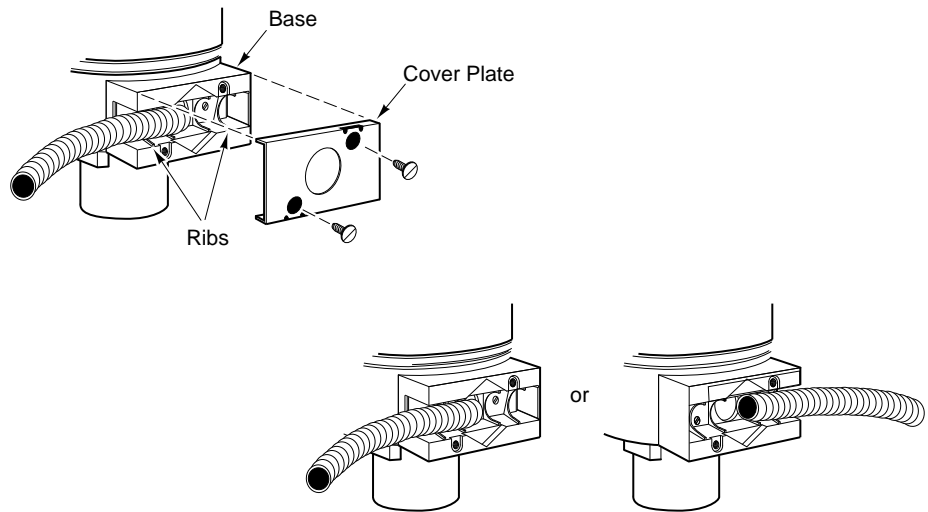
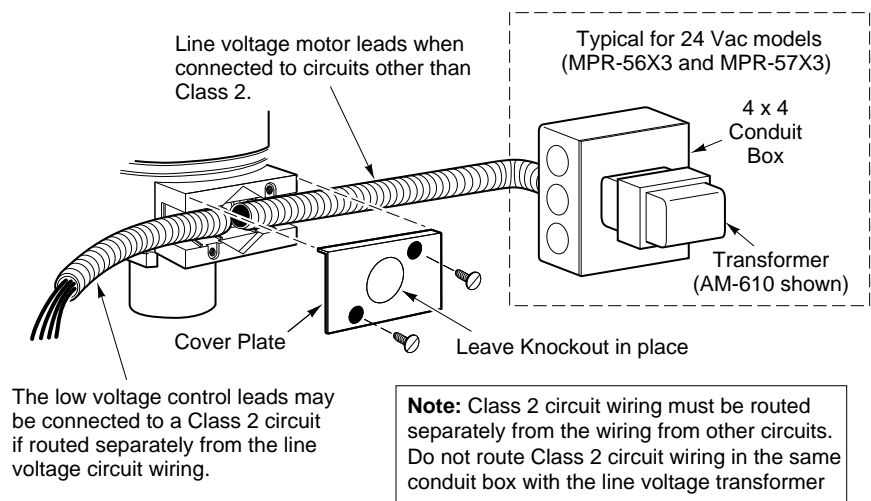

Figure-8 Flexible Conduit Installation to Either Side of Actuator.
Figure-9 MPR-5600 and MPR-5700 Series Wiring with Separation for Class 2 and Line Voltage Circuits.
The control leads may be connected to a Class 2 circuit if routed separately from Class 1 circuit wiring. Refer to Figure-9 .
Line voltage (120 Vac and 240 Vac) power leads must be connected to a Class 1 circuit and routed separately from Class 2 circuit wiring. Refer to Figure-9 .
Flexible conduit may be installed onto one or both sides of the actuator (refer to Figure-8 and Figure-9). Install each conduit as follows:
4. Slip the conduit onto the base, over the ribs. Refer to Figure-8 and Figure-9 .